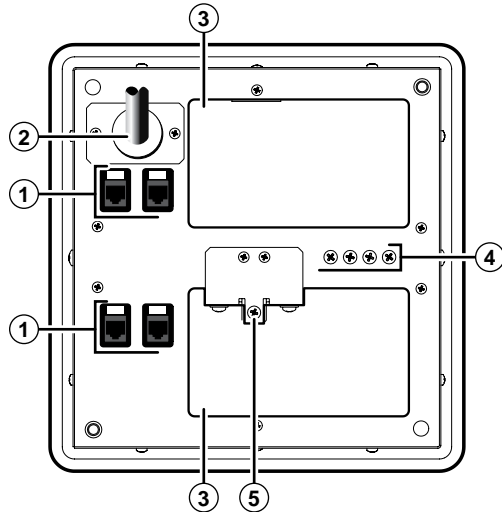

Figure 8. HSA 822 Enclosure Underside Connectors
7. Replace the AAP panel in the surface mount enclosure and secure them in place with the screws removed in step 2. If you lose an AAP panel screw, four spare screws are stored in the underside of the enclosure (see figure 8 on page 12).